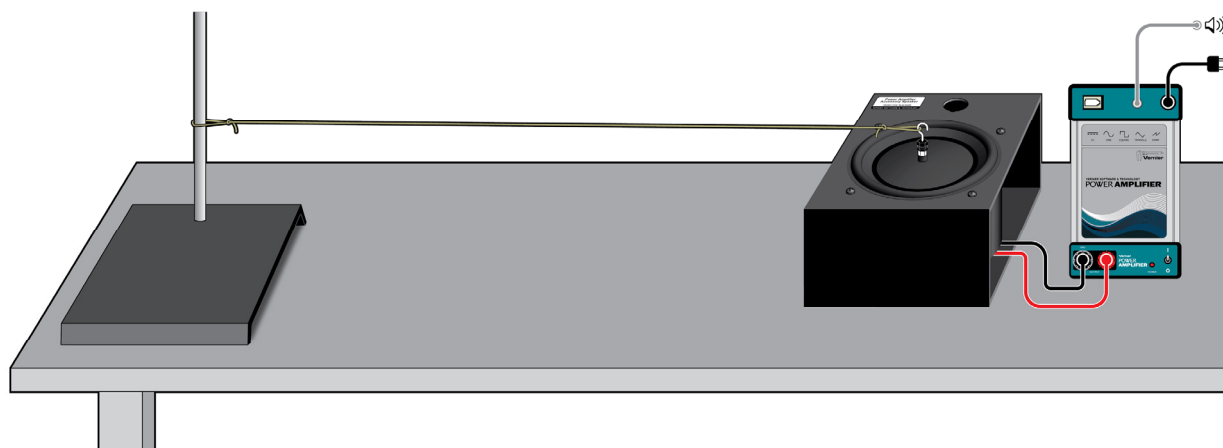

Figure 2 Power Amplifier and Accessory Speaker
1. Set up the apparatus as shown in Figure 2. Attach the hook that comes with the Power Amplifier Accessory Speaker to the speaker. Tie one end of the elastic cord to the hook and the other end to a support rod. The elastic cord should be stretched just tightly enough that it does not sag visibly, but is not too taut (the length of the cord should be 60–80 cm). Record the length of the cord. Turn on the power to the Power Amplifier.